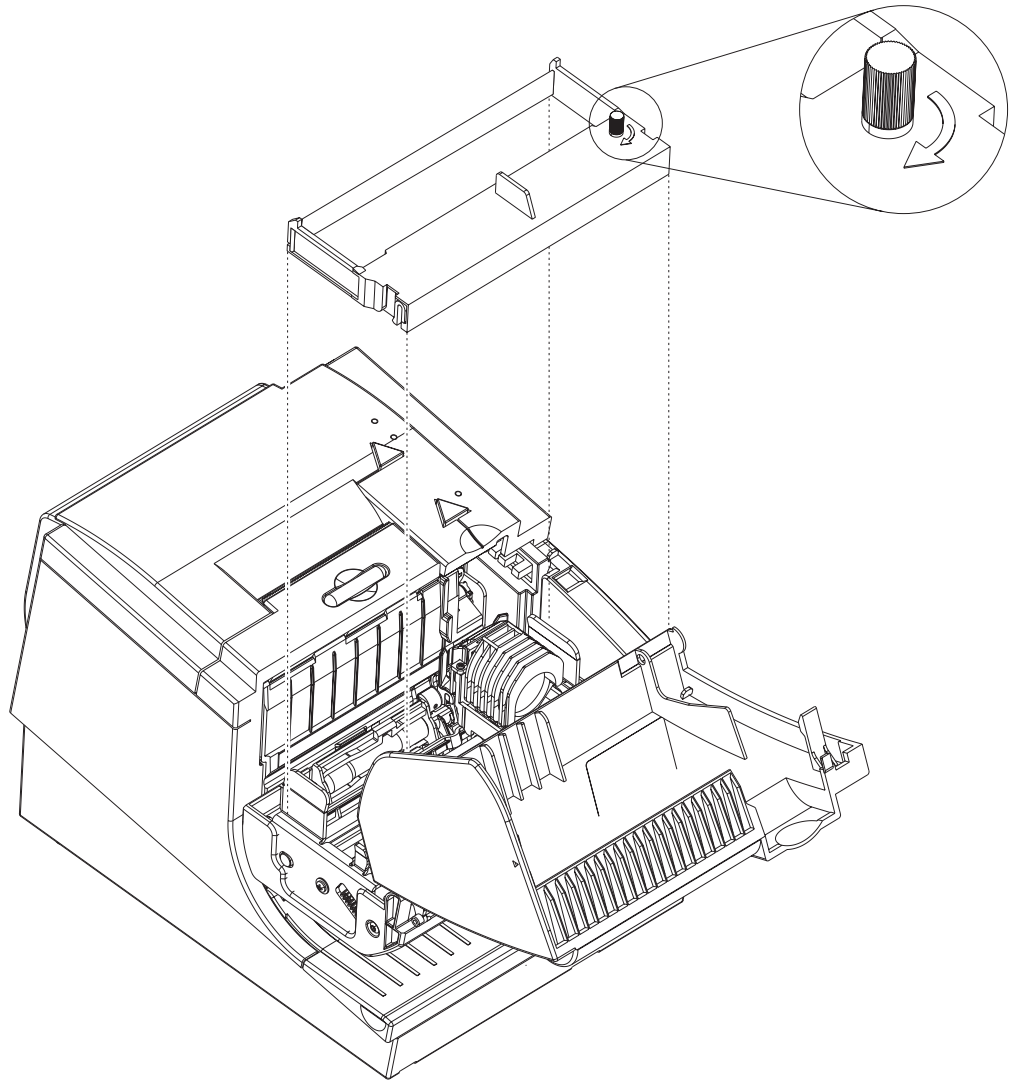

Figure 16. Ribbon cartridge loading
3. Maintain ribbon tension by turning the ribbon cartridge knob as shown in Figure 16. Lower the cartridge into position until the notches on its sides snap into place on the printer guides.